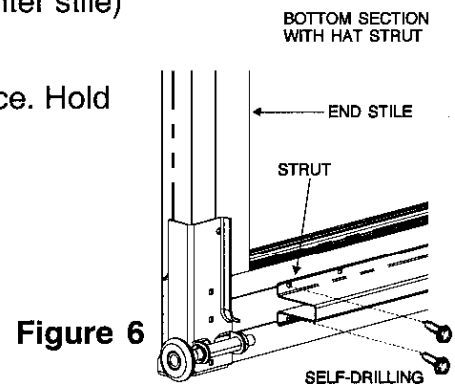

Figure 6
2. Attach hat struts while section is lying flat on a firm, level surface. Hold strut firmly against rail so that self drilling screws are driven through the strut and rail. See Figure 6.